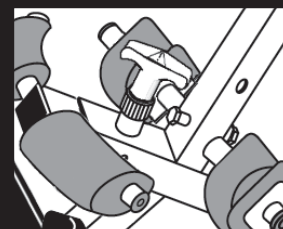

Fig. 9
- Adjust the front ankle clamps to make sure both the front and rear ankle clamps are snug against your ankles. Release the locking pin so that it fully engages a hole setting (Figure 9).